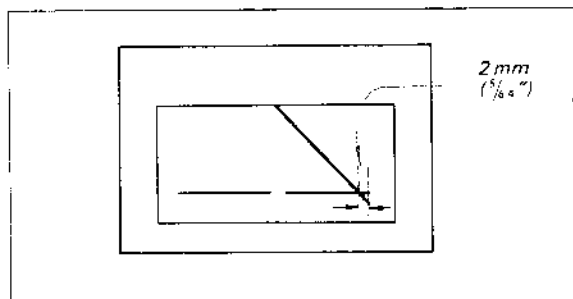

Fig. 3-16. Tuning meter calibration
3. Precisely tune the set to the signal and adjust R324 (RT301) (*) to obtain the meter pointer within 2 mm (3/64") left of its maximum indication as shown in Fig. 3-16.